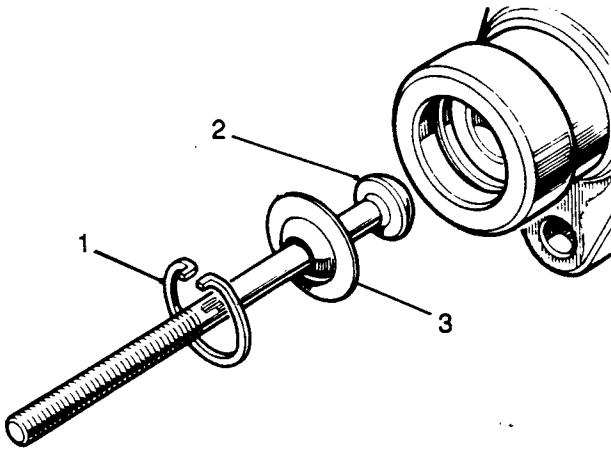

Fig H3.17
- (2) Refer to Fig H3.17. Remove the circlip (1).
(3) Withdraw the push rod (2) and retaining washer (3).